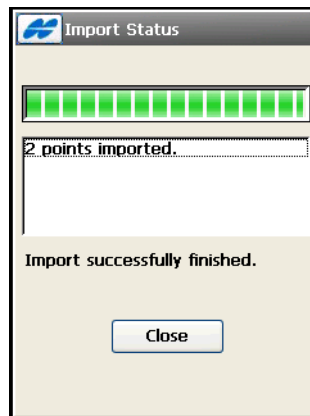

Figure 5-25. Import Status
**On the Import Status** screen (Figure 5-25), tap the **Close** button to return to the main screen.